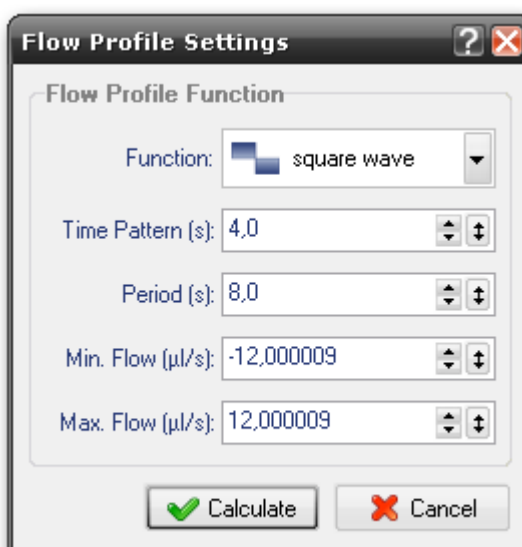

Figure 74 – Settings for Continuous Flow - Dosing Unit 1
2. The configuration dialog will appear. Please select the *square wave* function (Figure 74). In the *Time Pattern* field, enter the number of seconds that every dosing unit should emit the reagent. Now enter a value into the *Period* field that is twice as big as the value in the *Time Pattern* field. The value in this field will define the time for a complete cycle of a syringe (uptake and release). The times you have to enter in *Time Pattern* can be calculated from the fill level in the syringe and the desired flow rate. Fill the *Max. Flow* field with the desired flow rate and the *Min. Flow* field with its negative value.